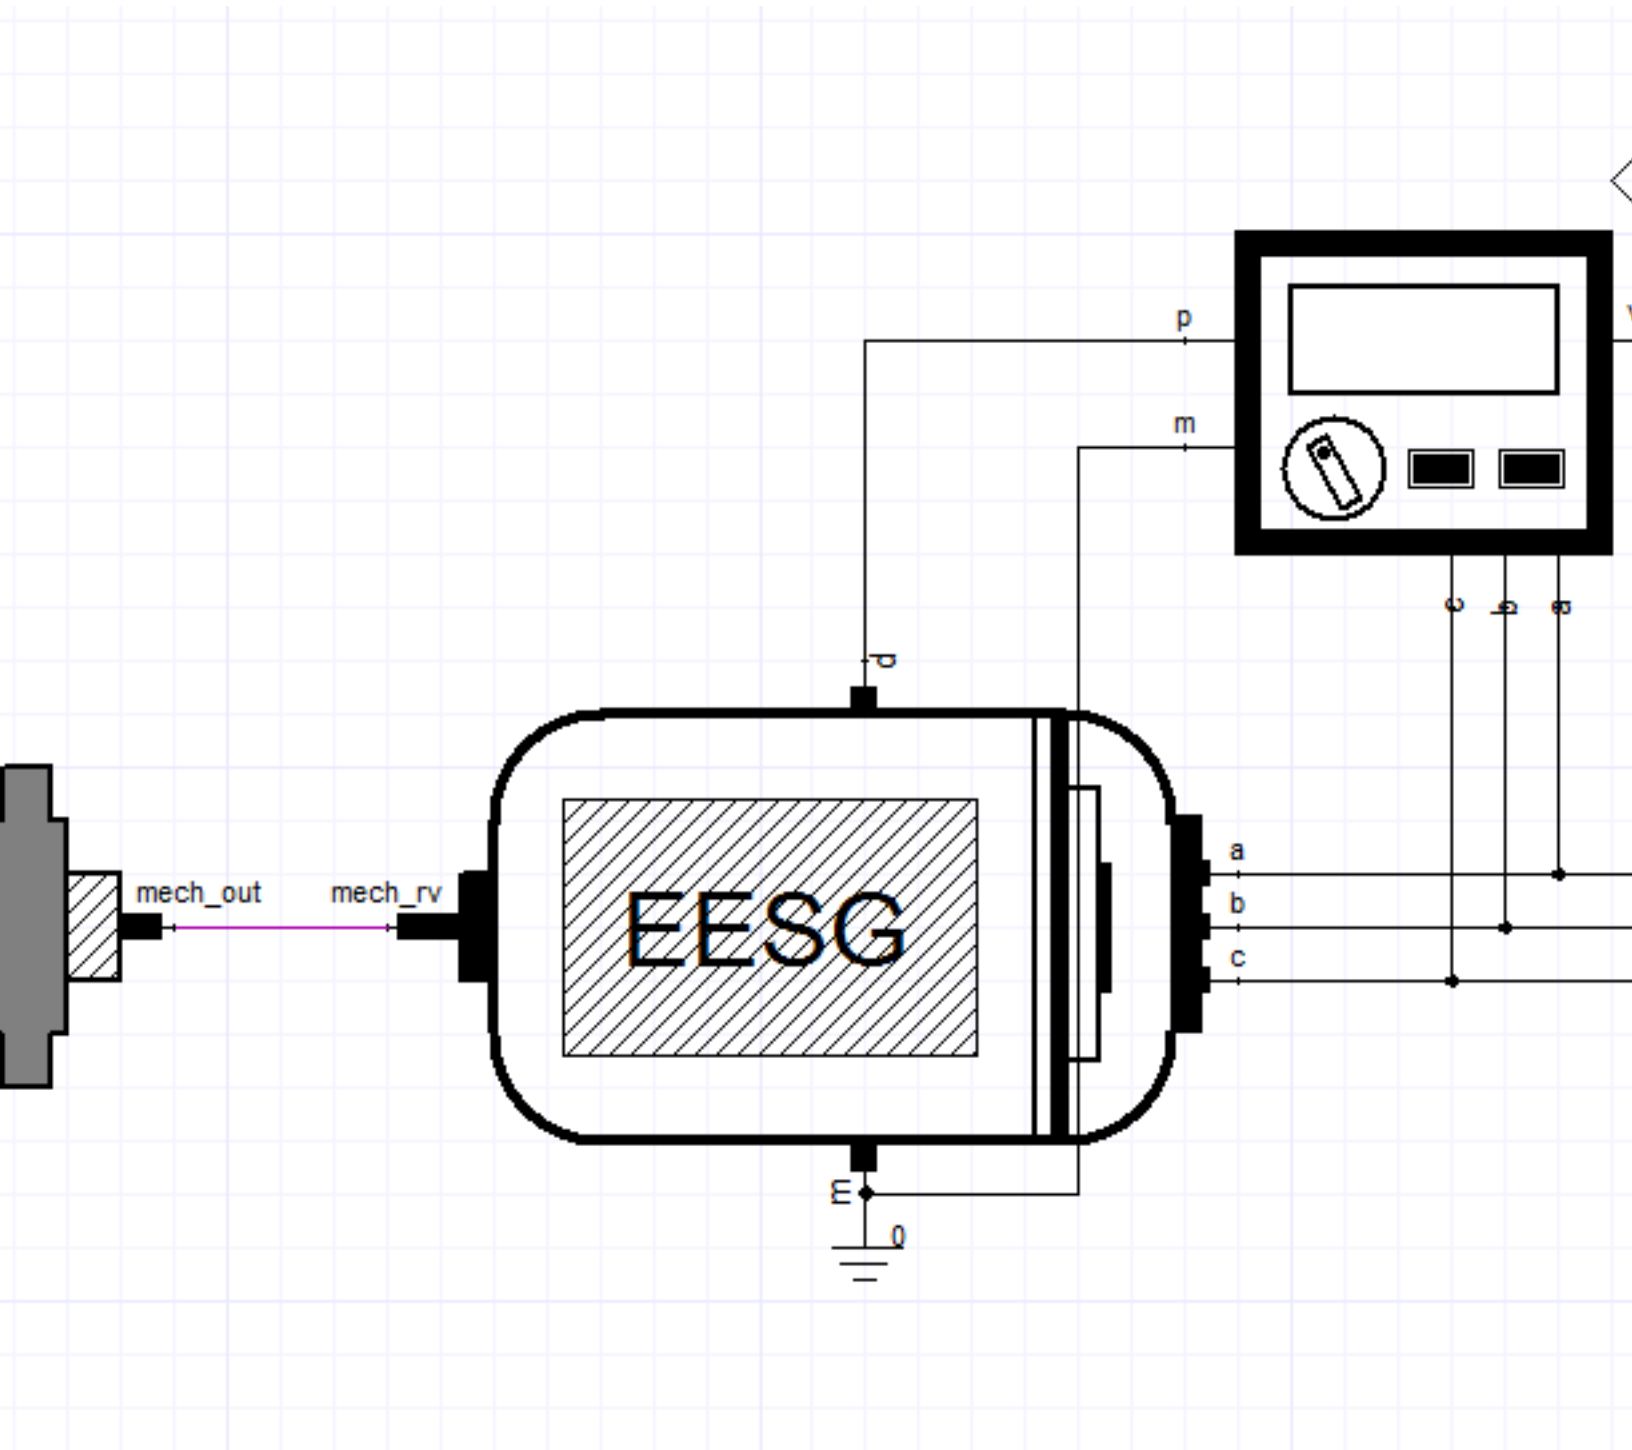

Figure 3. Integrated Drive Generator Sub-System Schematic
- **Integrated drive generator sub-system**, shown in Figure 3. It contains constant speed drive, generator control unit and generator with electrical excitation models from Aircraft Electrical VHDL-AMS/Generator library.